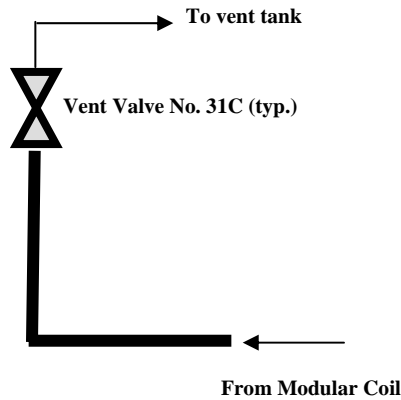

Figure 7-Typical Zone 3 Valve Assembly
- Continue flowing epoxy into the coil via the Zone 1 and 2 valves until epoxy is observed exiting each of the Zone 3 (Exit) valves [36 thru 47]. Figure 7-Typical Zone 3 Valve Assembly. **Close** each Zone 3 exit valve once epoxy reaches the control panel.